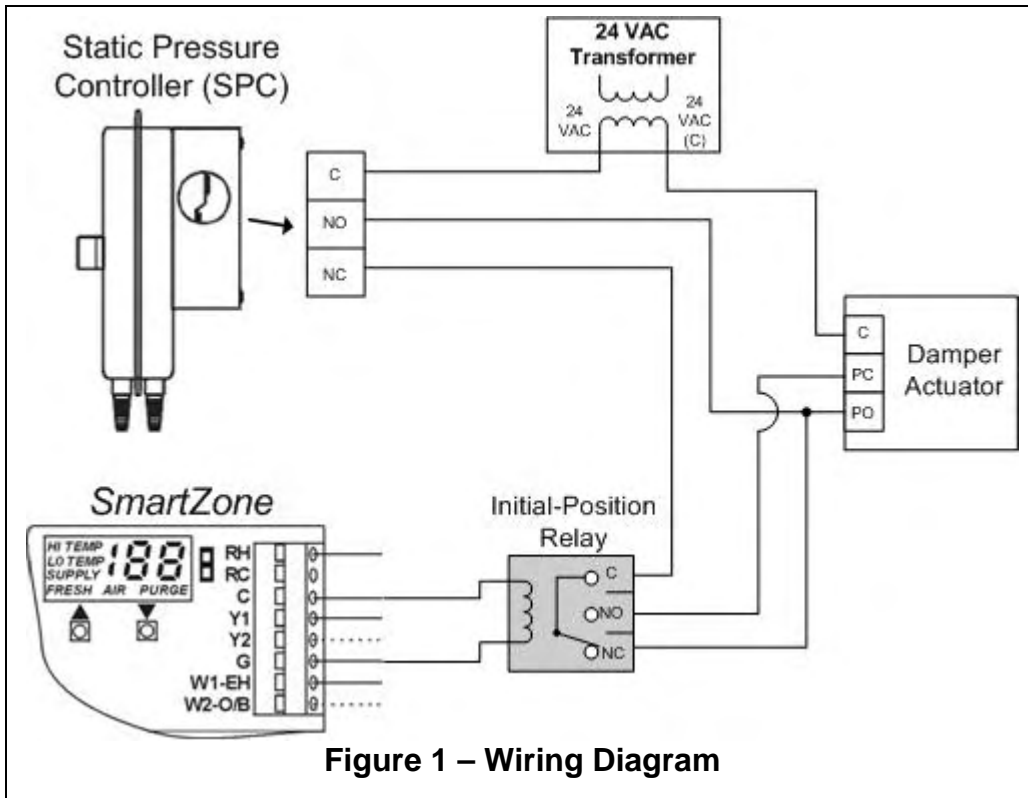

Figure 1 – Wiring Diagram
Before pressure is applied to the diaphragm, the switch contacts on the SPC will be in the normally closed (NC) position. This snap switch has screw top terminals with cup washers. Wire according to **Figure 1**.